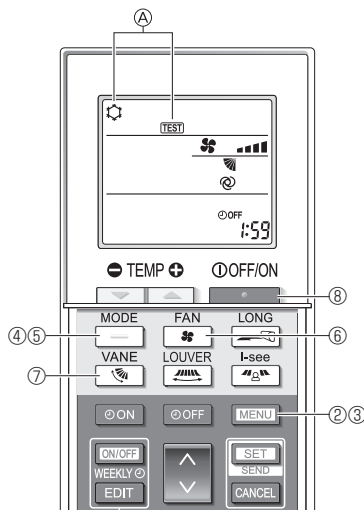

Fig. 7-5
- ① Turn on the power to the unit at least 12 hours before the test run.
- ② Press the **MENU** button for 5 seconds. (Fig. 7-5)
Ⓐ [TEST] and the current operation mode are displayed. (Fig. 7-5)